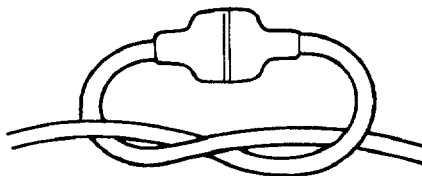

**Figure 2**
1. To avoid line tangle during shipment, the tip of the monofilament line has been taped to the head assembly. The tape must be removed before operation (Fig. 2).